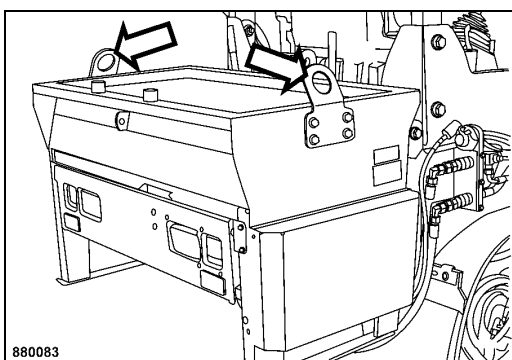

Fig. 93
- Hook the chip spreader to the fastening points (Fig. 93).